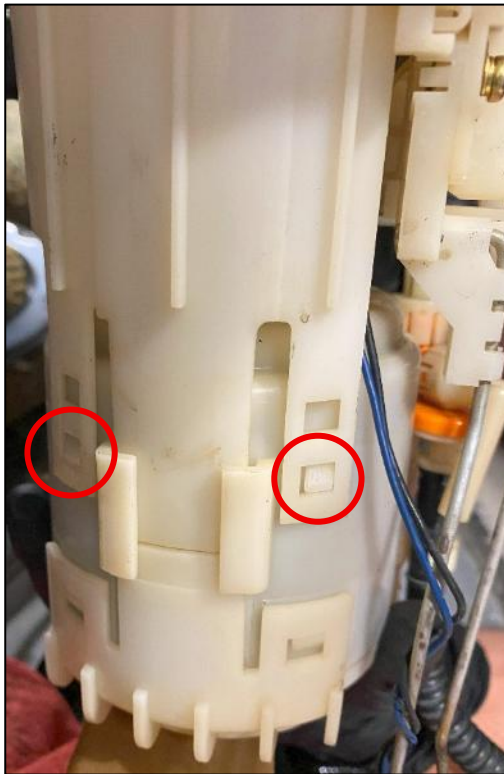

Figure 7
13. Release the (4) four tabs on each side of the Basket Assembly and pull the top half of the Assembly away from the bottom. *Figure 7.*